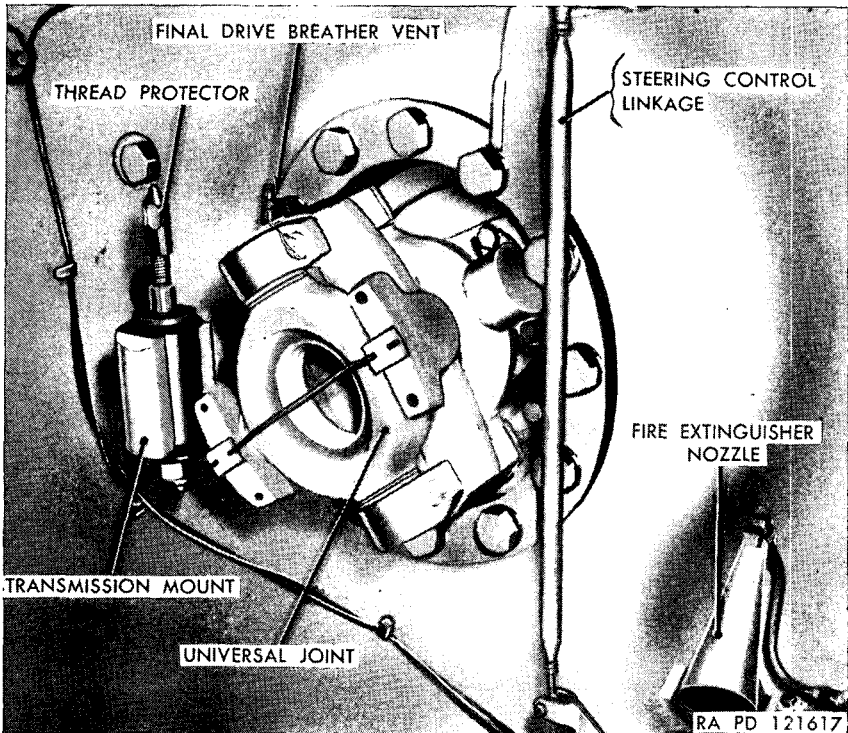
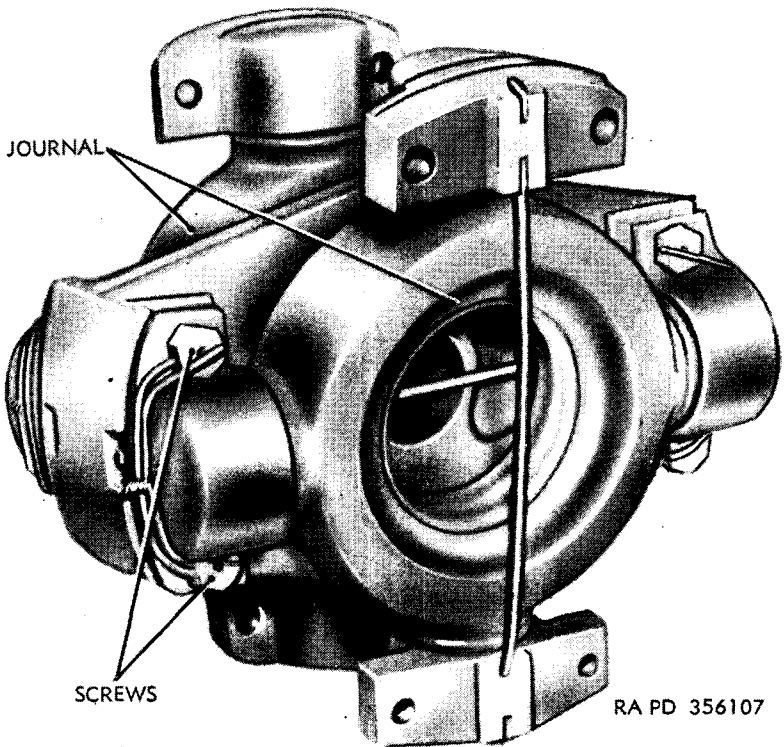

Figure 245. Universal joint—installed view.
Figure 246. Universal joint.
- (1) *Remove top deck.* Refer to paragraph 158b.
- (2) *Remove power plant.* Refer to paragraph 159.
- (3) *Remove universal joint.* Attach rope sling to the joint. Remove locking wire and four bolts which fasten the universal joint (fig. 245) to the final drive. Pry the universal joint away from the final drive shaft and lift the universal joint (fig. 246) out of the vehicle.
- (1) *Install universal joint.* Place sling around universal joint and lower it into position (fig. 245). Align the flanges and install the four bolts which fasten the universal joint to the final drive. Secure bolts with locking wire.
- (2) *Install power plant.* Refer to paragraph 160.
- (3) *Install top deck.* Refer to paragraph 161a.